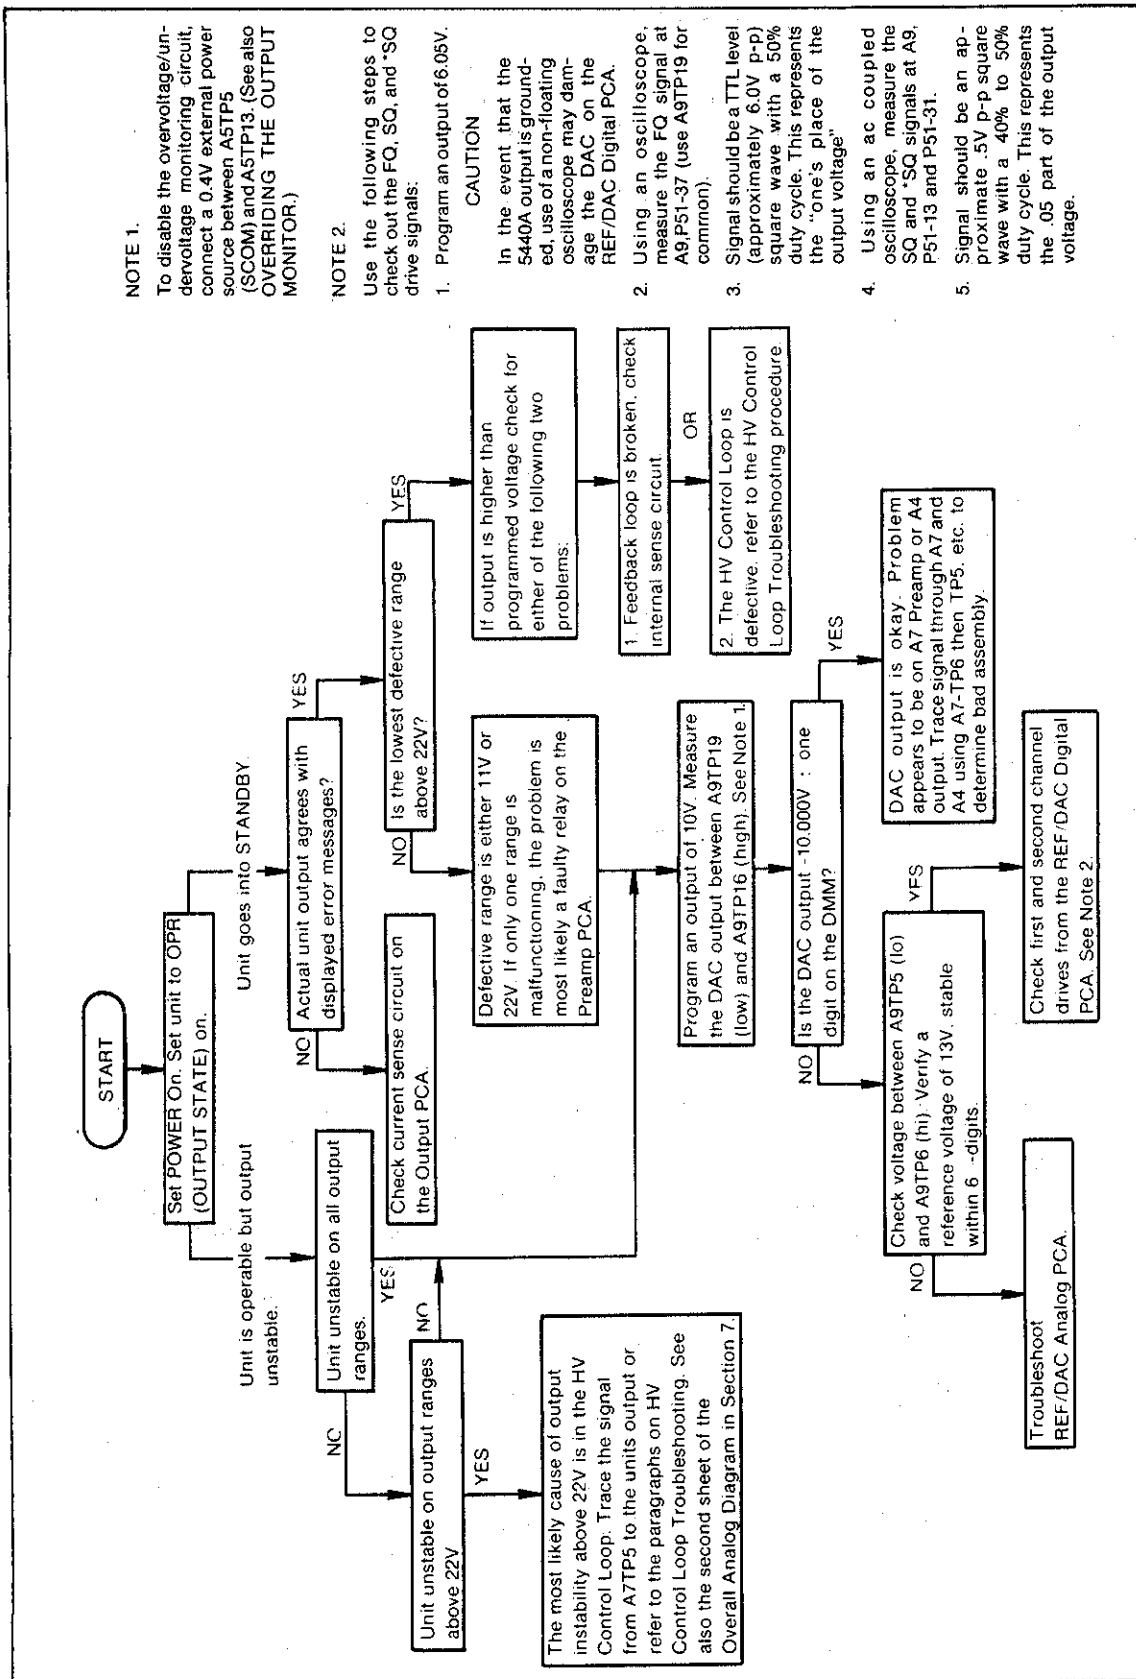

Figure 4-1. Analog Troubleshooting Tree
The Analog Troubleshooting Tree is contained in Figure 4-1. To use this tree, perform the following steps:
5. Start with the top-most block in Figure 4-1. Perform the instruction contained within the block, and follow the appropriate prompt to the next block until the specific malfunctioning PCA is found. (Refer to the Overall Analog Diagram in Section 7 to aid in diagnosis.)